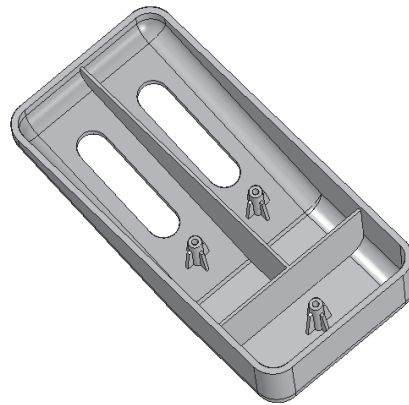

Figure 7-64 Final model after creating the mounting bosses
- g. Add mounting bosses to the model, refer to Figure 7-64.
6. Exit the sketching environment and specify the direction of the feature creation downward. Choose the **Finish** button to complete the tool. The final model of the cover, after creating the mounting bosses, is shown in Figure 7-64.